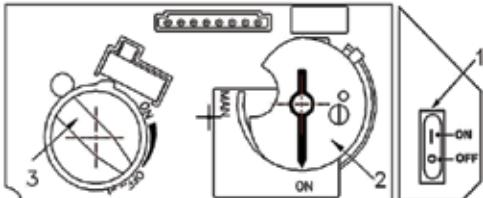
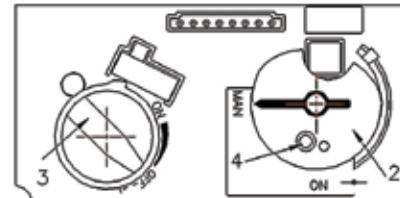
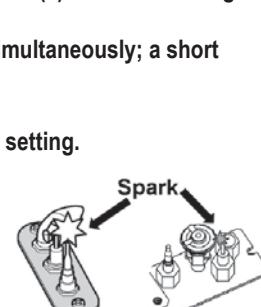

Fig 1
Fig 2
Fig 3
2. SET ON/OFF SWITCH (1) TO "OFF" POSITION.
- Wait five (5) minutes to clear out any gas, then smell for gas, including near the floor. If you smell gas, STOP! Follow "B" in the safety information above on this label. If you don't smell gas, go to the next step.
3. AUTOMATIC IGNITION (fig. 1): Locate the pilot (fig. 3.) inside of firebox at Left Hand side.
- ON/OFF switch (1) in ON position, MAN-knob (2) in ON position; set Flame Adjustment knob (3) to lowest setting (⊖);
- When the pilot is lit, the Flame Adjustment knob (3) will automatically rotate to the highest setting.
4. MANUAL IGNITION (fig. 2): With the window off, locate the pilot (fig. 3)